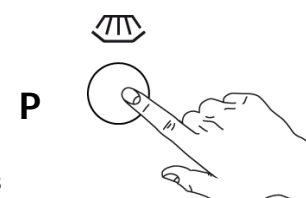

Fig.33
- 1- Press button "P" to start continuous manual washing cycle. (Fig.33)